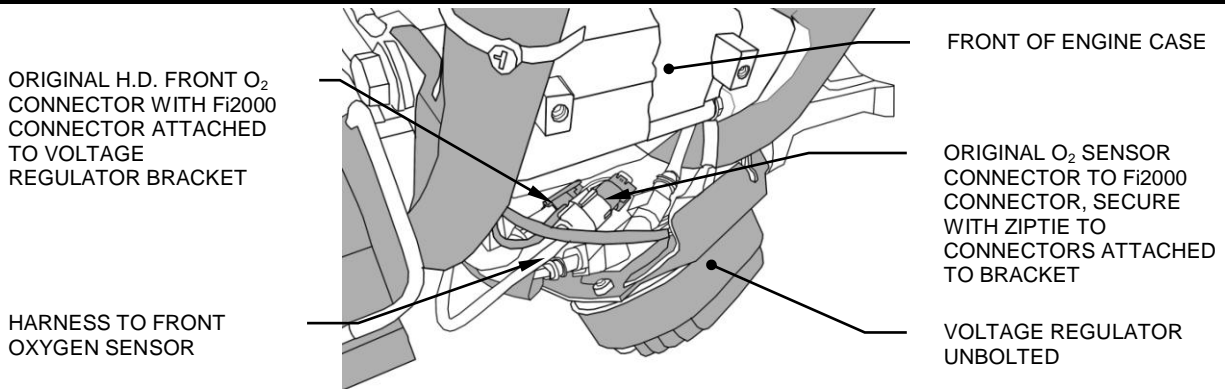

FIGURE 4
7. Remove the 2 Allen bolts that secure the voltage regulator bracket to the engine case. Ease the voltage regulator forward just enough to access the front O₂ connector, it is located on the backside of this bracket, see Figure 4. Unplug the connector and then plug the Fi2000 female connector into the original HD male connector as well as the other mating pair of connectors. Reinstall this connection on to the voltage regulator bracket and zip tie the other mating pair to it. Be sure the O₂ sensor harness exits the right side, when securing the voltage regulator back on to the engine case. Secure the Fi2000 O₂ harness to the lower right frame rail in the locations shown in Figure 5.